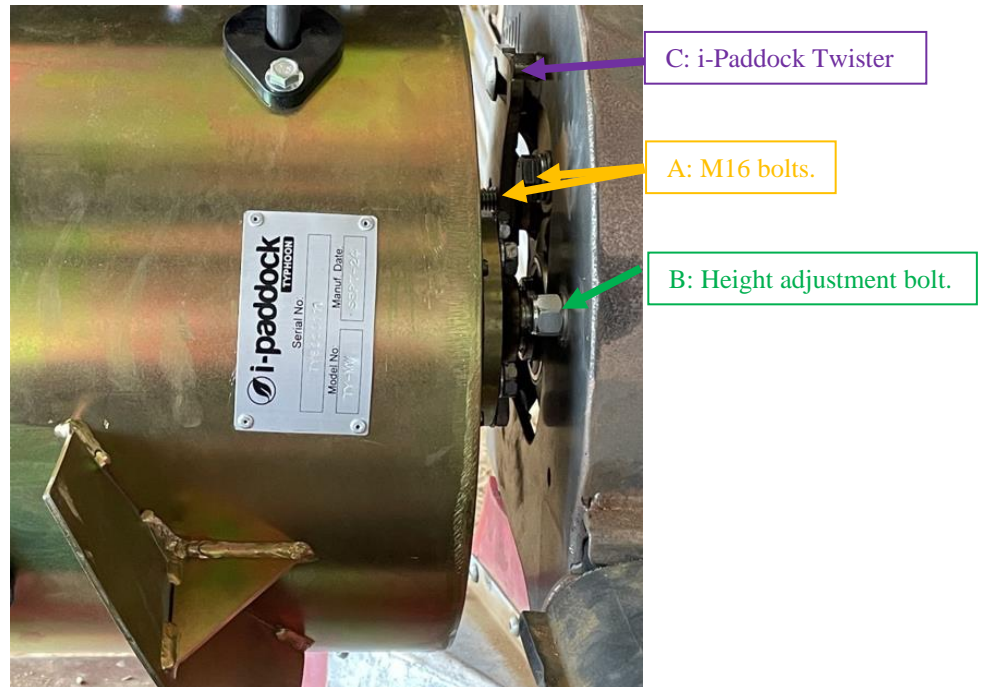

Figure 14: Durus, Typhoon from drapers side
2. Loosen the two M16 bolts on the mounting bracket (A, Figures 14 & 15) on both sides.
3. Remove the height adjustment bolts (B, Figures 14 & 15) on both sides; these are easily accessible from the draper's side of the front.
4. Adjust the height by rotating the twister with a 10mm spanner or a shifting tool (C, Figure 14). This can also be accessed from the draper's side. Keep in mind that the twister's full range cannot be used; refer to the 4-height setting slots.
5. Once the desired height is reached, reinstall the height adjustment bolts removed in step 3 (B, Figures 14 & 15), and tighten the M16 bolts loosened in step 2 (A, Figures 14 & 15).
4. Remove the height adjustment bolts (B, Figures 14 & 15) on both sides.
5. Adjust the height using the levers. Once the desired height is achieved, reinstall the height adjustment bolts removed in step 4 (B, Figures 14 & 15), and tighten the M16 bolts loosened in step 2 (A, Figures 14 & 15).